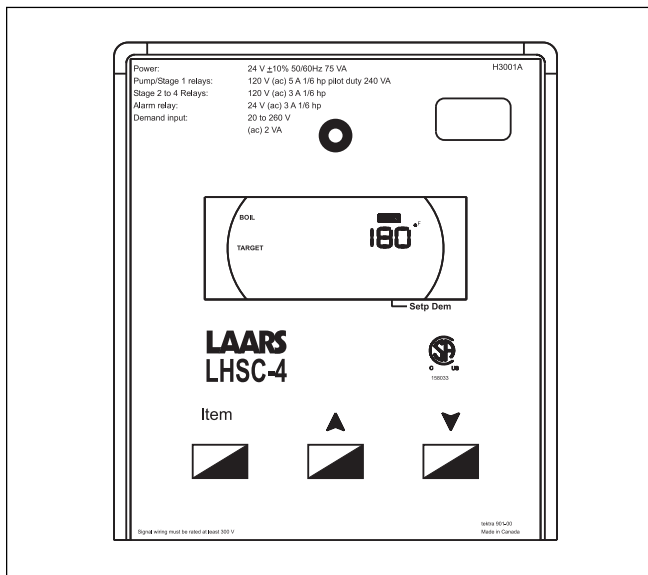

Figure 15. Temperature Control.
There are three black programming buttons on the Temperature Control (see Figure 15). Press and hold all three programming buttons until the word “ADJUST” appears in the upper right corner of the LCD display (it replaces the word “VIEW”).
**Step 2:** Press the three programming buttons to enter “ADJUST” mode (Figure 15). Press “Item” to select the programming item, and the arrow keys to adjust the setting. “TARGET TANK” is desired tank temperature. Recommended settings with a desired tank temperature of 125°F:
**Step 3:** Press the three programming buttons to enter “ADJUST” mode (Figure 15). Press “Item” to select the programming item, and the arrow keys to adjust the setting. See section 6.3 Programming the Temperature Control if more programming instructions are needed.